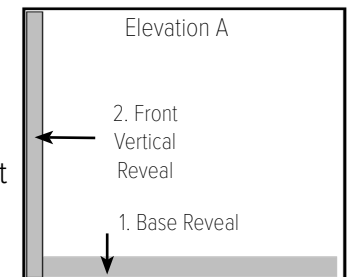

Figure 2.2.2
2.2.2 Place the front vertical reveal on the floor, against the wall & over existing base & apply light pressure to the length of it as shown in Figure 2.2.2.